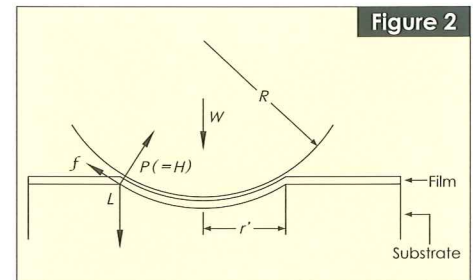

Figure 2
Here, the load applied by the stylus to the film (W) and the shear stress on the boundary surface of the film (f), have the following relationship (**Figure 2**):